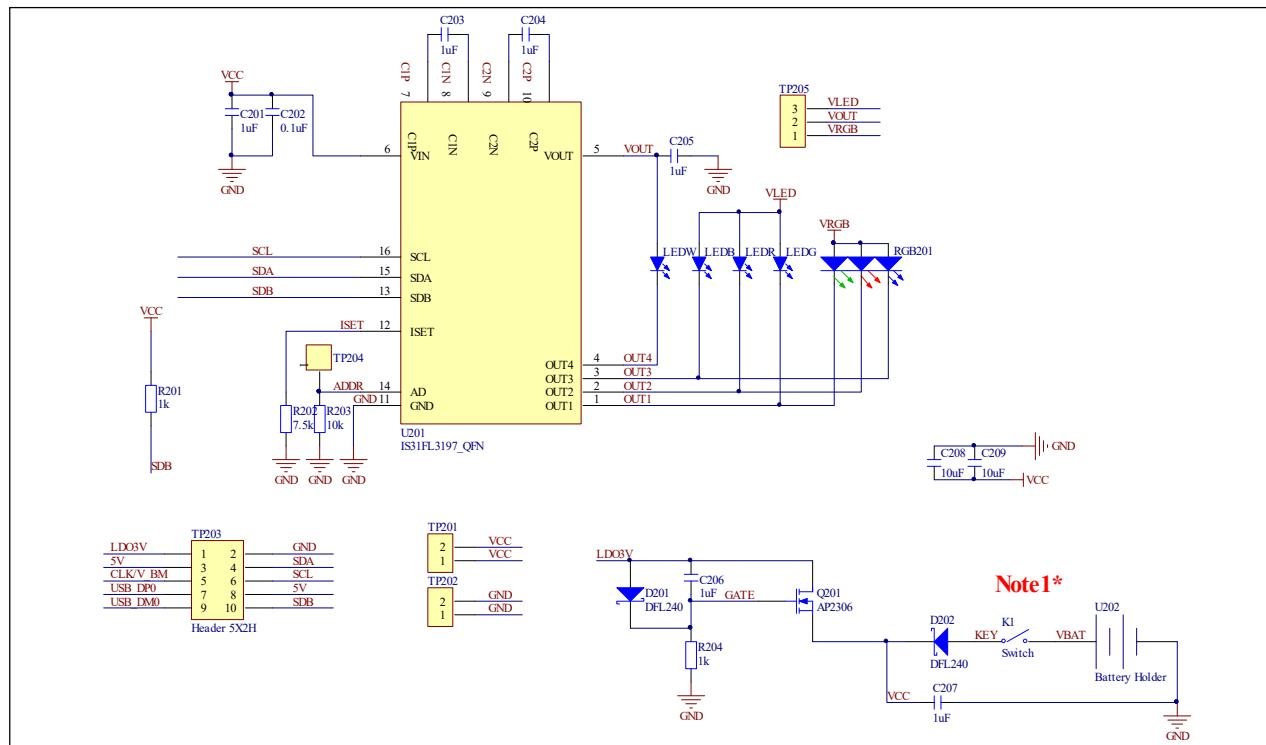

Figure 4: IS31FL3197 RGBW Board Schematic
*Bill of Materials, refer to Figure 4 above.*